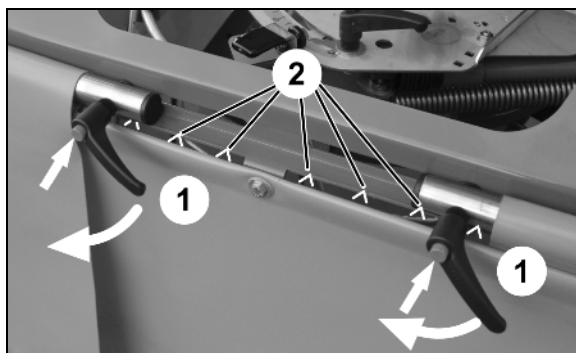

Fig. 24
2. Release the setting lever (Fig. 24/1) on both sides.
The markings (Fig. 24/2) serve as a guide here.